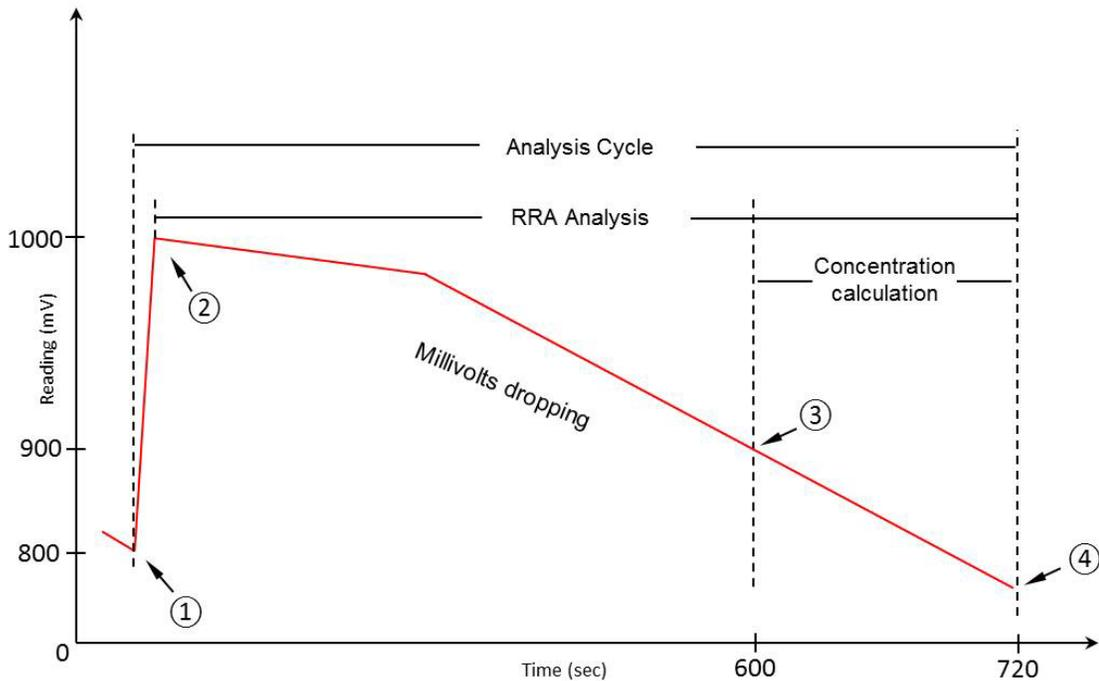

Figure 2: H₂S Analysis Cycle
Figure 2 shows a complete analysis cycle from when the motor has finished advancing the H₂S sensing tape from a previous analysis (1) to the end of the current analysis (4). Once the H₂S sensing tape has finished moving and a new tape surface area is exposed, the reflection of light from the LED to the photodiode detector is at its maximum and results in a voltage output from the sensor block of 1000 mV (+/- 100 mV). This mV reading is captured by the analyzer, and it is referred to as the "Zero Sensor". The zero sensor will vary for each surface area of the H₂S sensing tape and will represent the starting point for the H₂S reading for that cycle.